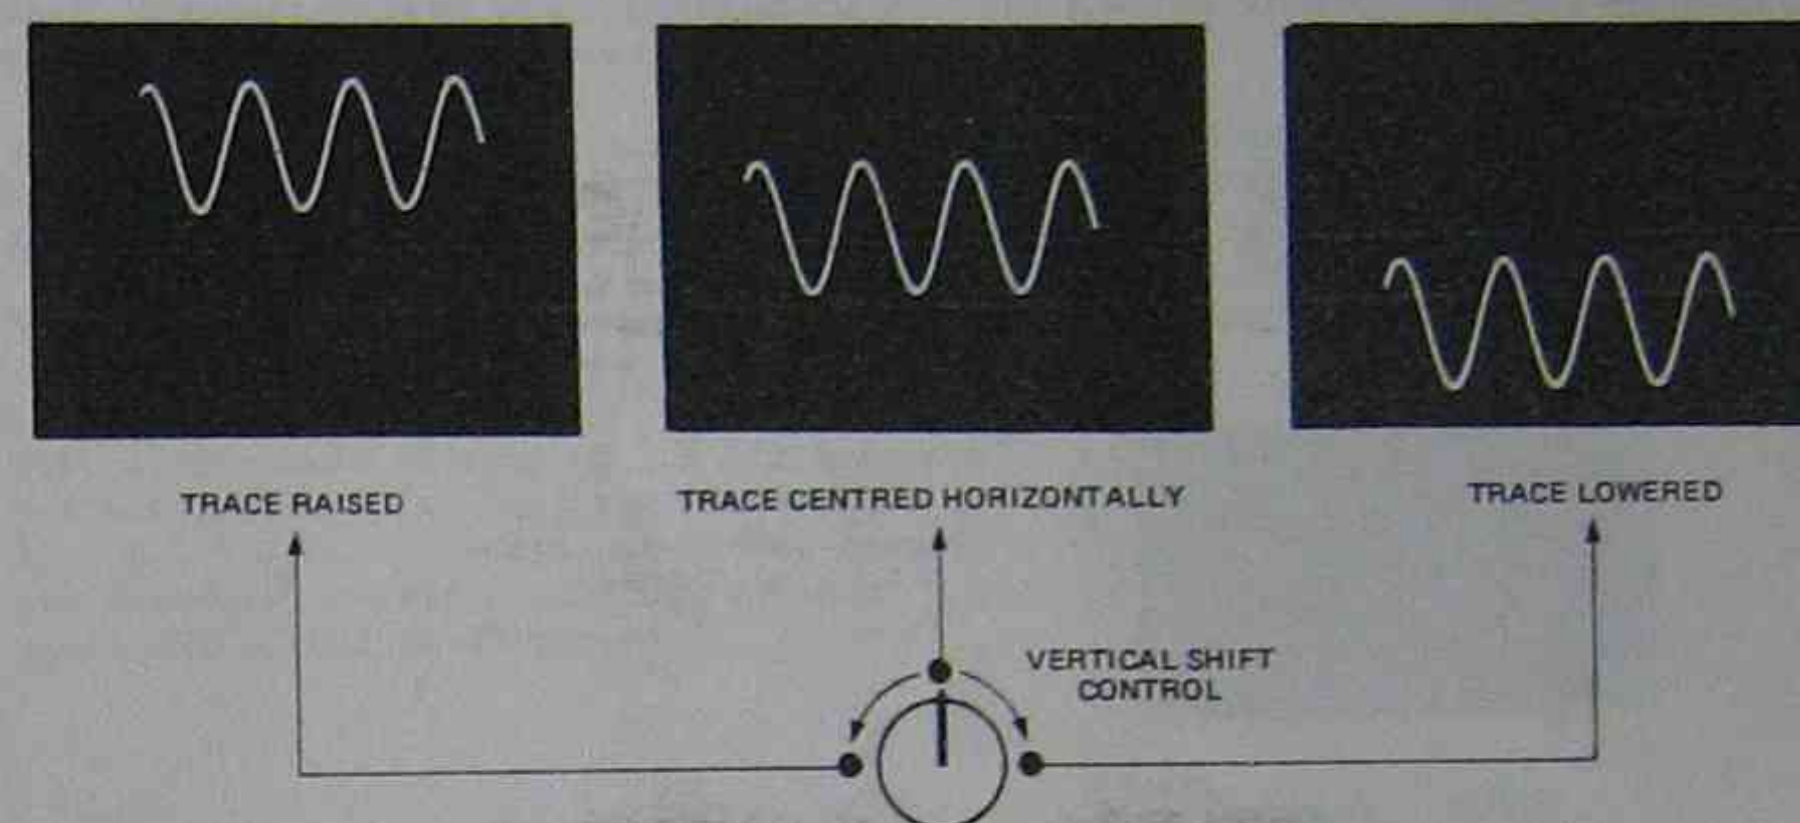

FIG. 28. VERTICAL SHIFT CONTROL.
8.5 VERTICAL SHIFT CONTROL. This provides control over the vertical (up and down) position of the trace. In this way the trace can be placed at any required distance from the top or bottom of the screen, as shown by the photographs in Fig. 28. The vertical shift control is also used to line up the trace with the graticule when measurements are being made on the C.R.T.